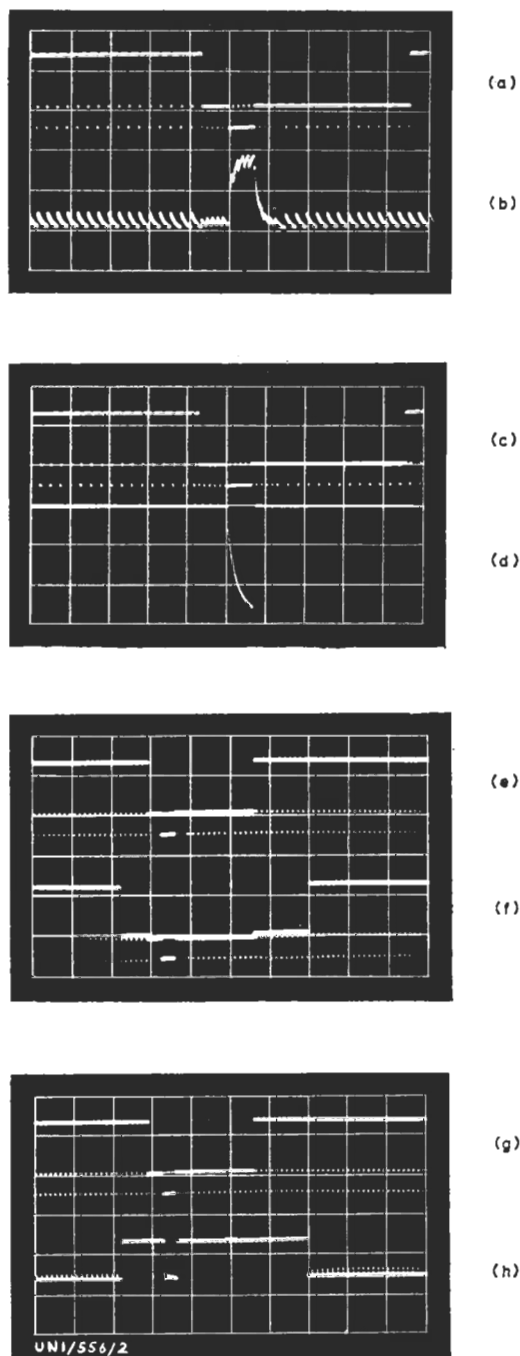

Fig. 2 Waveforms in the UN1/556
6. Connect the oscilloscope to Test Lug TL1 and check that a field-frequency pulse of about 5 volts p-p is present, as shown in Fig. 2(d). If it is not, check that the waveform at C13 is as shown in Fig. 2(b).
7. Connect the two inputs of the oscilloscope to the *Mon In* and *Mon Out* points and display the same field on the upper and lower traces in a similar manner to that shown in Fig. 2. Trigger the oscilloscope from TL1. Remove the mixed-blanking input to the unit.
8. Plug the GE2/531 Post-field Blanking Generator into the centre one of the three sockets provided on the MX1/504. Check that the video output signal is blanked for six lines after the normal field-blanking period, see Fig. 2(f). If it is not, adjust RV1 on the GE2/531 until it is.
9. Plug the GE2/530 Pre-field Blanking Generator into the socket nearest to the front panel. Check that the video output signal is blanked for five lines before the normal field-blanking period, see Fig. 2(f). If it is not, adjust RV1 on the GE2/530 until it is.
10. Reconnect the mixed-blanking feed to the unit. Plug the GE2/532 Line Blanking Generator into the socket nearest to the rear of the unit. Set the oscilloscope to run at line-frequency and observe the signals present at the *Gate Pulse* monitor socket and at the input to the unit (trigger the oscilloscope with mixed-blanking trigger). Check that the gate pulse waveform is positive-going and more than 0.5 volts in amplitude, see Fig. 2(h). The leading edge of the waveform should be coincident with the